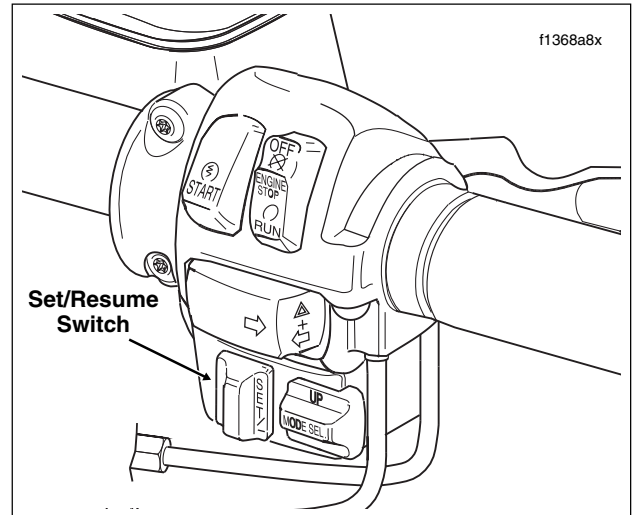

Figure 8-124. Right Handlebar Switch Assembly (FLTR, FLHTCU)
3. With the motorcycle traveling at the desired “cruise” speed (30 mph/48 km/h to 85 mph/137 km/h), momentarily push the Cruise SET/RESUME switch to SET. See Figure 8-124.